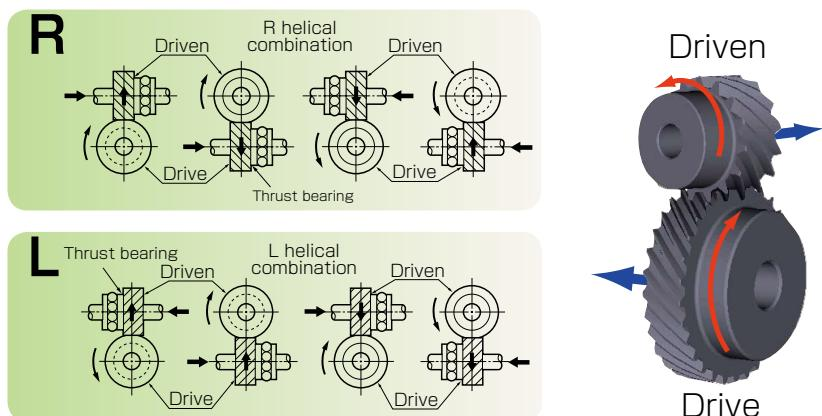

Fig.1.14 Direction of Rotation and Thrust Force
The direction of rotation and thrust force on right-helical (R) / left-helical (L) combinations are shown in the Figure 1.14.